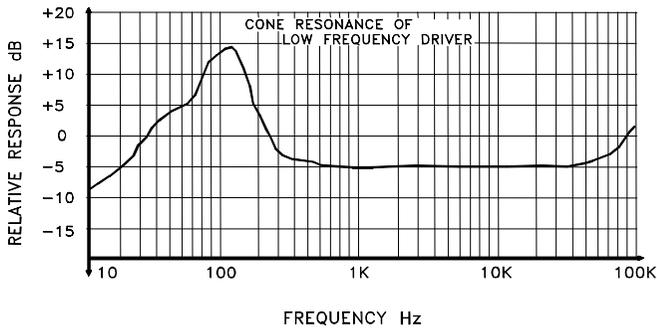

FIG 8. TESTING SPEAKER SYSTEMS AND IMPEDANCE NETWORKS.
A. Connect equipment as shown in Test Set-Up in FIG. 8 for frequency response measurement except that the signal input to the speaker or impedance network is monitored. The oscilloscope may be used to verify that this instrument is not in a clipping condition.
D. In speaker testing, a pronounced increase of voltage will occur at some low frequency. This is the resonance frequency of the speaker systems(FIG. 8). The speaker enclosure will modify the results obtained from the same speaker without an enclosure. A properly designed enclosure will produce a small peak on each side of the peak obtained without an enclosure. the enclosure designer can use the response characteristics to evaluate the effects of varying port sizes, damping materials and other basic enclosure factors.
- a. Connect a variable resistor in series with the impedance network as shown in FIG. 8